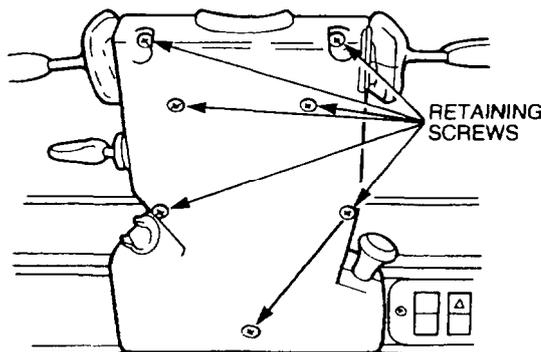

Figure 85 Steering Column Shroud Mounting
- h. Remove the screws securing the shroud and remove the shroud with the hand throttle attached (Figure 85).
- n.** Install the steering column shroud and secure it with the screws (Figure 85).